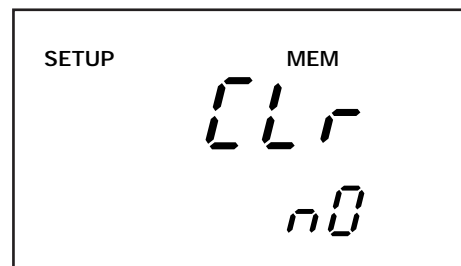

Figure 49
3. Press **▲** and **▼** keys to toggle between **NO** and **YES**. —See Figures 49 and 50.